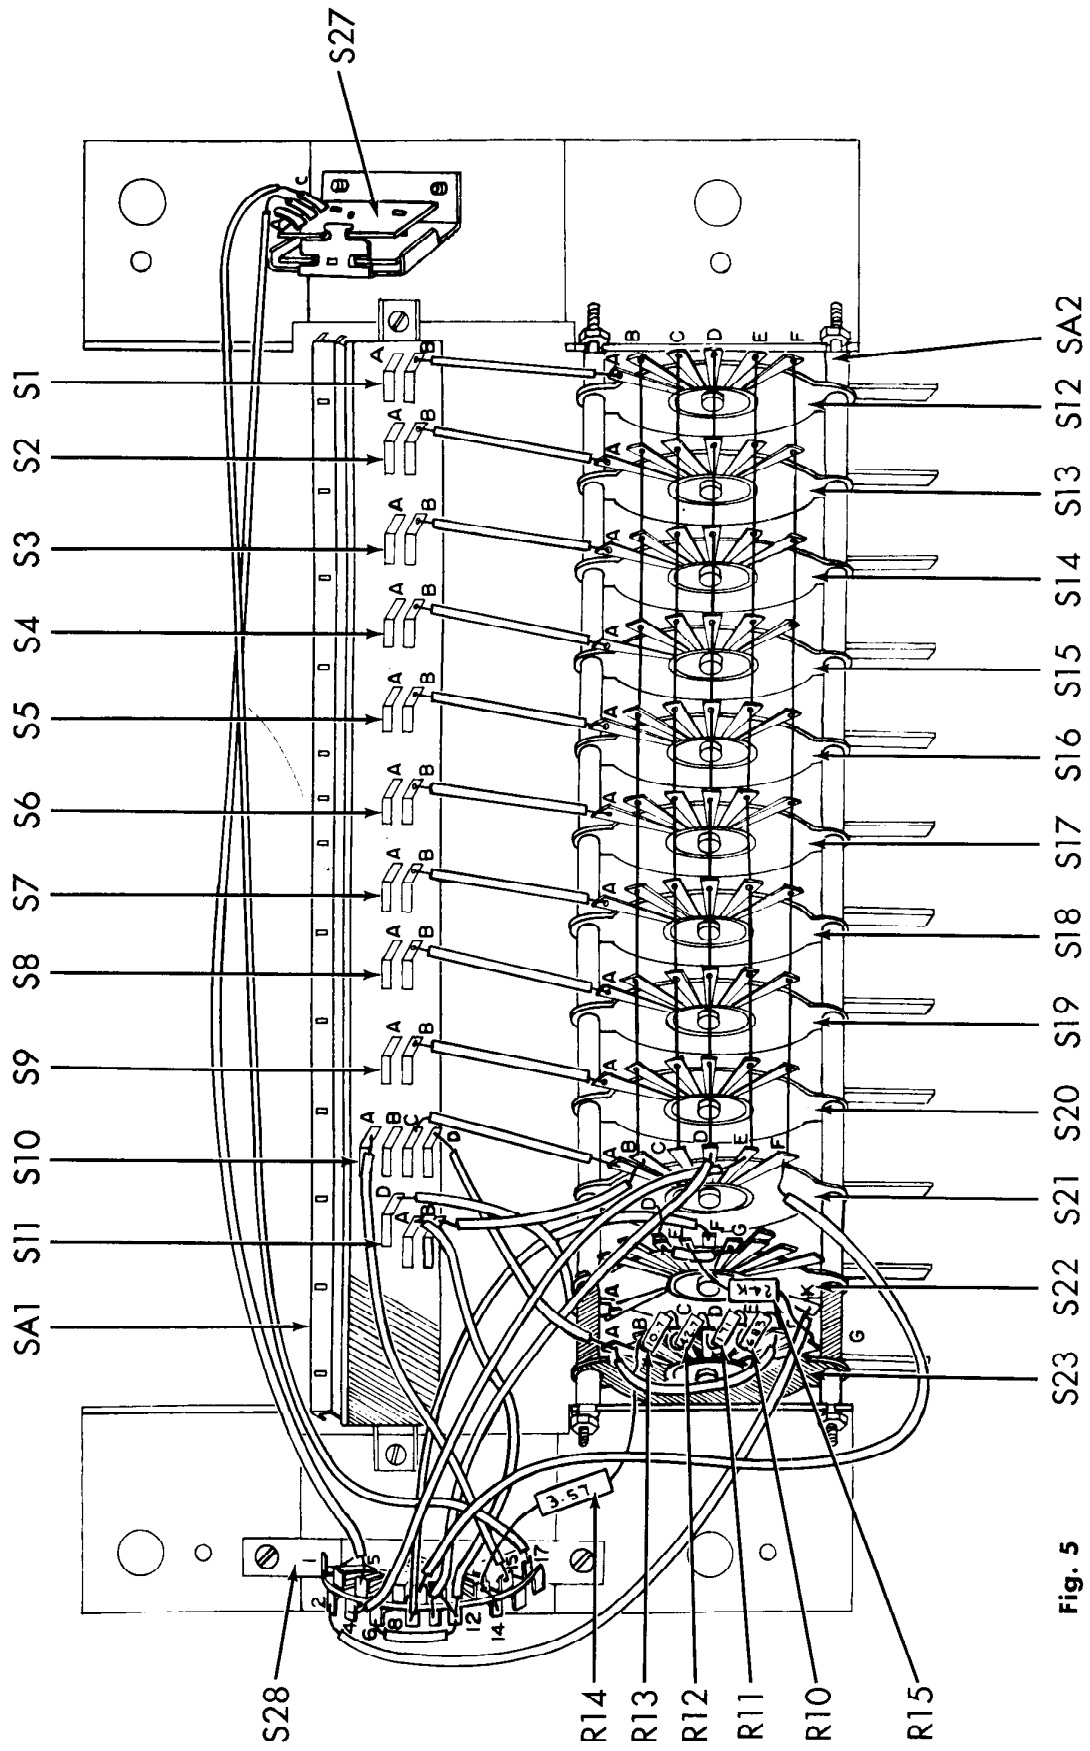

Fig. 5
- (✓) 1. Fig. 5. Connect short lengths of bare wire, covered with spaghetti, between each of the following pairs of points (solder both ends):
- (✓) 2. Fig. 5. Run one end of an 8" length of bare wire thru S12-B. Continue running it thru S13-B, S14-B, etc., finally connecting it to S21-B. Do not solder yet.
- (✓) 3. Fig. 5. Repeat the above for S12-C thru S21-C.
- (✓) 4. Fig. 5. Repeat the above for S12-D thru S21-D.
- (✓) 5. Fig. 5. Repeat the above for S12-E thru S21-E.
- (✓) 6. Fig. 5. Repeat the above for S12-F thru S21-F.
- (✓) 7. Fig. 5. Connect one end of a 3" red lead to S22-A (S). Connect the other end to the dummy lug, S11-D (C).
- (✓) 8. Fig. 5. Connect a short length of bare wire, covered with spaghetti, from S22-D (C) to S22-G (S).
- (✓) 9. Fig. 5. Connect a short length of bare wire, covered with spaghetti, from S21-B (S) to S11-B (S).
- (✓) 10. Fig. 5. Connect one end of a 3" blue lead from S10-D (S) to S23-A (C).
- (✓) 11. Fig. 5. Connect one end of a short bare lead, covered with spaghetti, from S23-A (C) to S23-F (C).
- (✓) 12. Fig. 5. Connect the 24K 1W resistor, R15, from S22-E (C) to S23-G (S).
- (✓) 13. Fig. 5. Connect the 683 ohm resistor, R10, from S23-F (S) to S23-E (C).
- (✓) 14. Fig. 5. Connect the 171 ohm resistor, R11, from S23-E (S) to S23-D (C).
- (✓) 15. Fig. 5. Connect the 42.7 ohm resistor, R12, from S23-D (S) to S23-C (C).
- (✓) 16. Fig. 5. Connect the 10.7 ohm resistor, R13, from S23-C (S) to S23-B (C).
- (✓) 17. Fig. 5. Connect one end of the 3.57 ohm resistor, R14, to S23-B (S). Pass the other end thru S28-13 and connect to S28-14. Solder both points.
- (✓) 18. Fig. 5. Connect a 5" violet lead from S10-A (S) to S28-15 (S).
- (✓) 19. Fig. 5. Connect a 6" white lead from S21-F (S) to S28-9 (S).
- (✓) 20. Fig. 5. Connect a 7" brown lead from S21-E (S) to S28-4 (S).
- (✓) 21. Fig. 5. Connect a 6" yellow lead from S21-D (S) to S28-10 (S).
- (✓) 22. Fig. 5. Connect a 4" black lead from S11-A (S) to S28-11 (S) and 12 (C).
- (✓) 23. Fig. 5. Connect a short length of bare wire covered with spaghetti from S28-6 (S) to S28-12 (S).
- (✓) 24. Fig. 5. Connect a 6" orange lead from S22-F (S) to S28-8 (S).
- (✓) 25. Fig. 5. Connect a 8" red lead from S22K (S) to S28-2 (S).
- (✓) 26. Fig. 5. Connect a 15" grey lead from S28-17 (S) to S27-C (S).
- (✓) 27. Fig. 5. Connect a 14" blue lead from S28-5 (S) to S27-B (S).